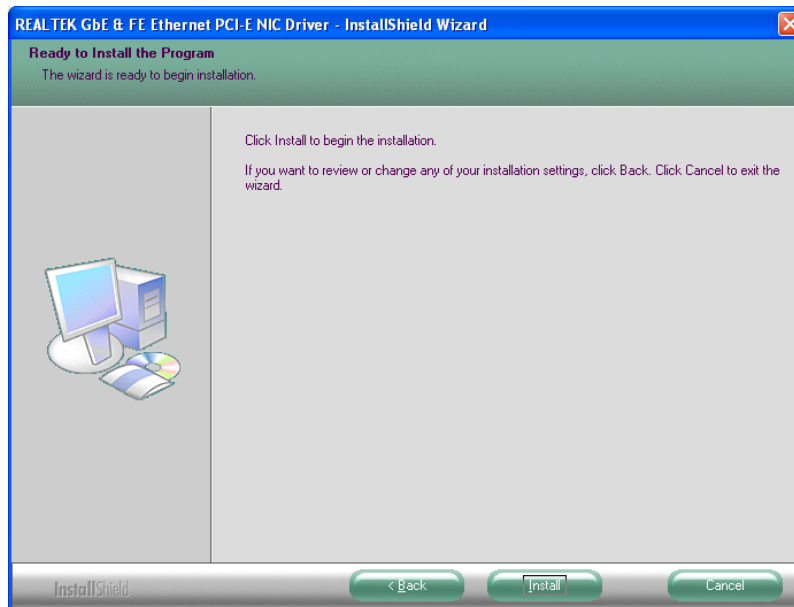

Figure 6-15: LAN Driver Welcome Screen
Step 5: The **Ready to Install** screen in **Figure 6-15** appears.